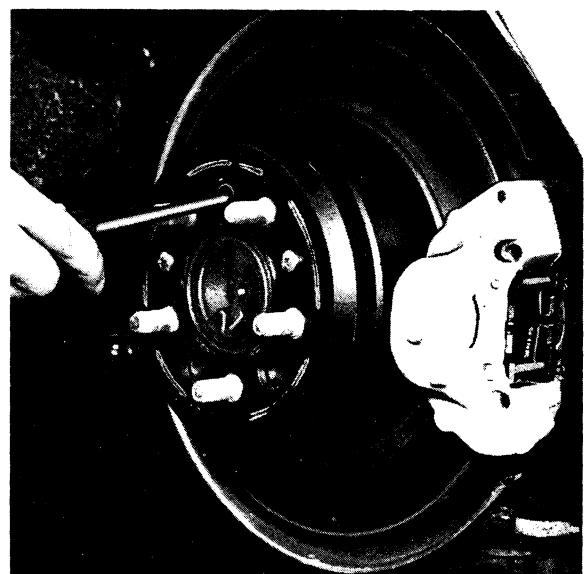

Fig. 5-81. Adjusting parking brake, rear wheel
4. Set the drum so that its hole coincides with the serrations on the adjusting screw and apply the shoes by moving the screwdriver handle upwards, see Fig. 5-81. When the drum can be rotated easily, discontinue applying the shoes. Then turn the adjusting screw back 4—5 serrations. Check that the shoes do not "drag" by rotating the drum in its normal direction of rotation. Very little dragging may be permitted. If, however, the dragging is more pronounced, the adjusting screw should be released a further 2
- Adjust the brake shoes of the rear wheels. Check that the brake pads do not stick to the brake disc and adjust the drum so that its hole coincides with the serrations of the adjusting screw. Place a screwdriver between the serrations of the adjusting screw and apply the shoes by moving the screwdriver handle upwards, see Fig. 5-81. When the drum can be turned easily, discontinue applying the shoes. Then turn the adjusting screw 4—5 serrations back.